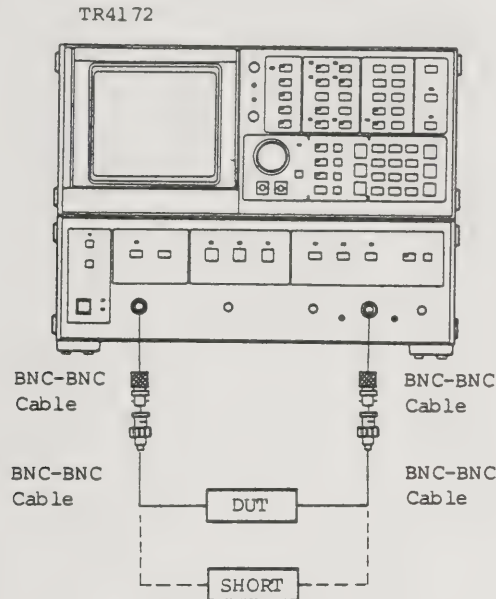

Fig. 5-1 Connecting the filter to the analyzer
- (b) Activate the tracking generator output and check the T.G. output level with the DUT disconnected as shown in Figure 5-1.
- (c) Connect the DUT as shown in Figure 5-1 (a). The insertion loss of the DUT is now read as the level difference between the marker point and display line.